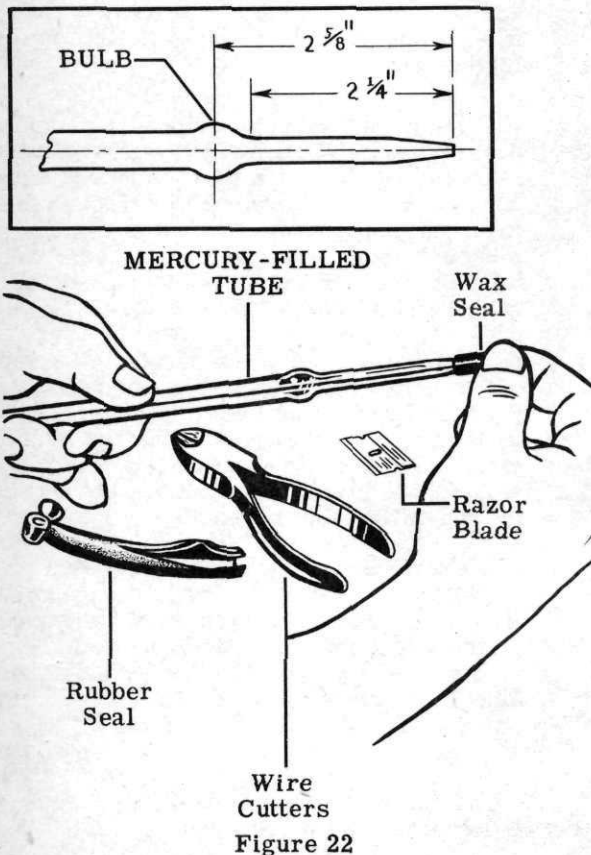

Figure 22
2. Cut the wire over the rubber seal on the end of the mercury-filled tube. Then, suitably supporting the sealed end of the tube, and using a razor blade, slit the rubber seal along its entire length. Remove the rubber seal from the end of the tube. See Fig. 22.
3. Remove the wax seal and the round toothpick from the end of the tube. Wipe off the end of the tube with a clean dry cloth. See Fig. 22.
4. Measure the distance from the center of the bulb on the mercury-filled tube to the open end of the tube. This distance should not be greater than $2\frac{5}{8}$ inches. Also, the distance from the start of the bulb to the end of the tube should not be greater than $2\frac{1}{4}$ inches. See the pullout, Fig. 22.